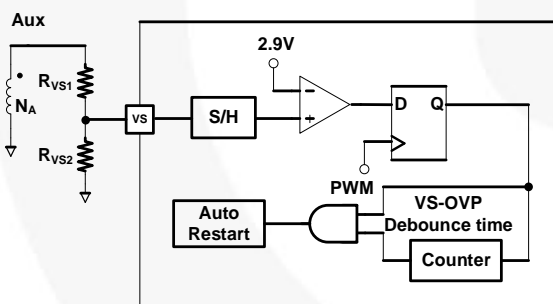

Figure 47. VS-OVP Protection Circuit
VS over-voltage protection prevents damage caused by output over-voltage condition. It is operated in Auto-Restart mode. Figure 47 shows the internal circuit of VS-OVP protection. When abnormal system conditions occur, which cause VS sampling voltage to exceed V_{VS-OVP} (2.9V) for more than 2 consecutive switching cycles (N_{VS-OVP}), PWM pulses are disabled and FAN602 enters Auto-Restart protection. VS over-voltage conditions are usually caused by open circuit of the secondary-side feedback network or a fault condition in the VS pin voltage divider resistors. For VS pin voltage divider design, R_{VS1} is obtained from Equation (10), and R_{VS2} is determined by the desired VS-OVP protection function as: